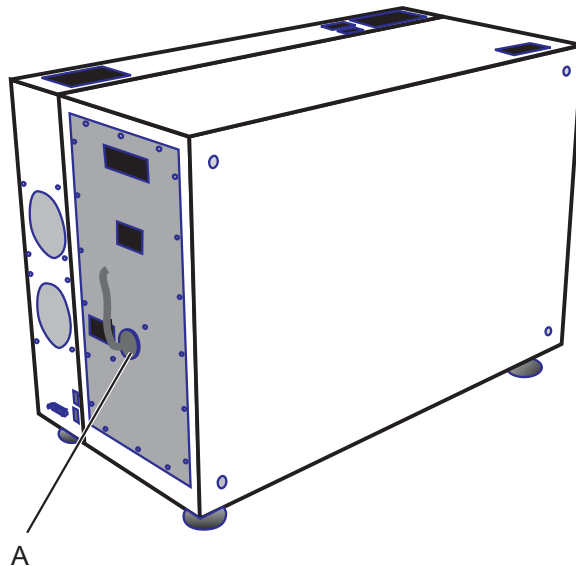

Figure 12: Shutter on laser device's beam exit
- The beam exit from the laser housing can be closed by a manually operated beam shutter (see Figure 12, A).